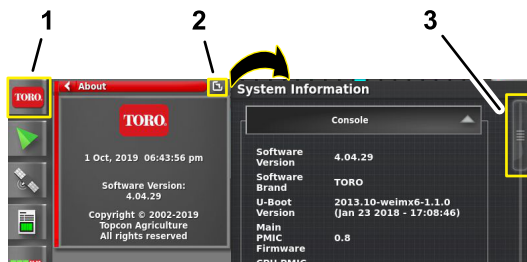

Figure 203
- Press the SYSTEM INFORMATION icon, and then swipe the FULL SCREEN icon in the upper right corner of the system information window (Figure 203).